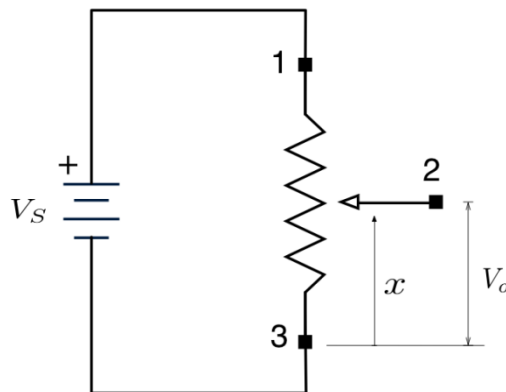

Figure 4. Voltage Divider Circuit using a Slide Potentiometer
- Measure the potentiometer total swing resistance (R_T), generate a 4 VDC voltage using the ELVIS VPS and measure the actual voltage using a DMM and record the voltage as V_S -actual. Determine the effective length L of the resistive portion of the slide potentiometer. Record your data in Table 8. Set up the circuit shown in Figure 4.